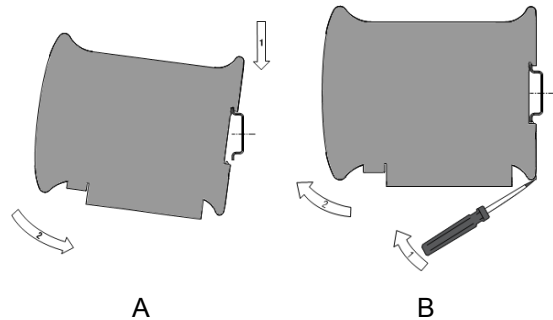

Fig. 6.1
- According Fig. 6.1.A.
- Insert a screwdriver into the eyelet of the slide interlock, push it, then remove the device from the rail (Fig. 6.1.B).